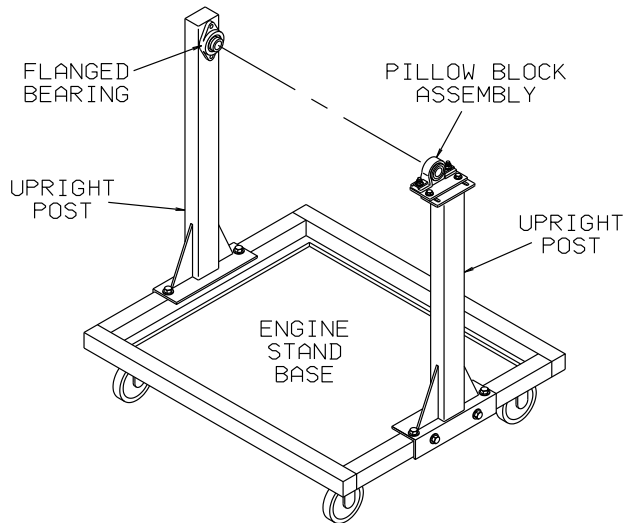

FIGURE 1
1. Remove the flanged bearing unit from upright post (see **Figure 1**).
2. Remove pillow block assembly from opposite upright post (see **Figure 1**).